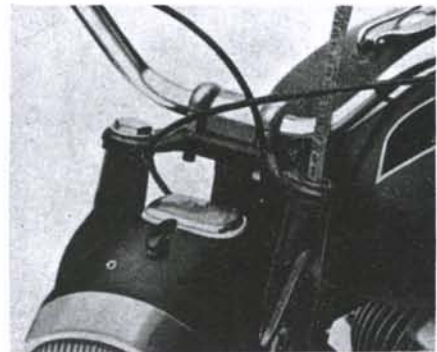
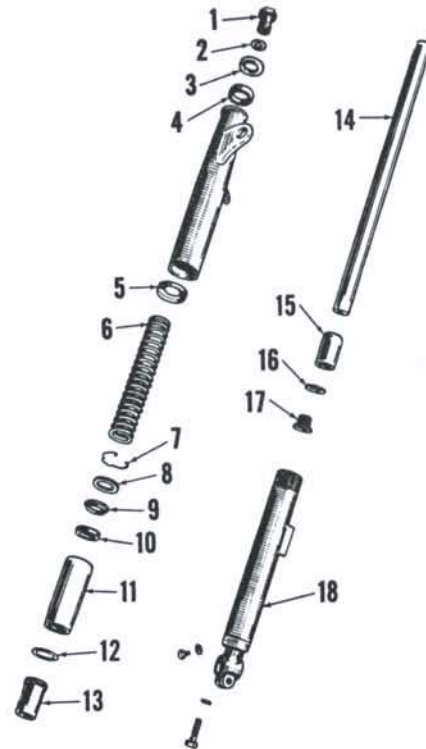

Fig. MG1-8—Oil in front fork should be maintained at 36 1/2 cm below level of top brace.
Fig. MG1-9—Exploded view of typical front suspension unit.
**SUSPENSION.** Each front suspension unit contains 125cc of SAE 20 engine oil. Oil should be maintained at level of 36 1/2 centimeters (14.6 inches) below top brace and can be measured as shown in Fig. MG1-8. Refer to Fig. MG1-9 for exploded view.